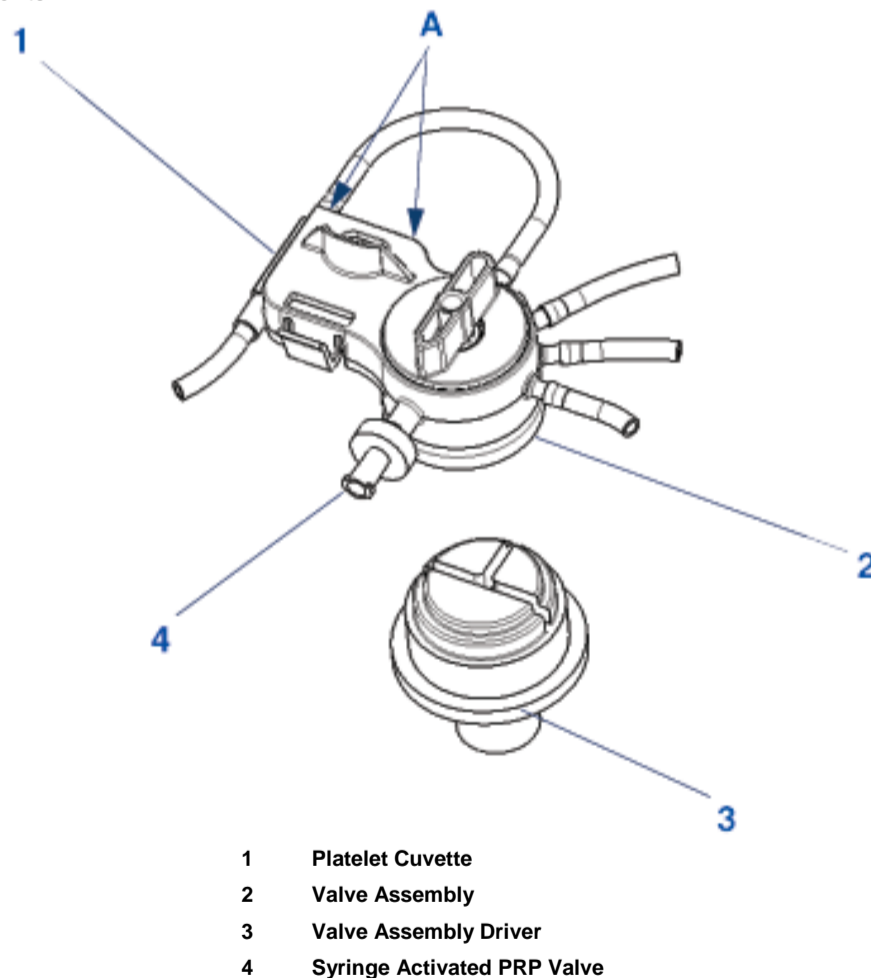

Figure 5 - Valve Assembly
9. Place the pump loop tubing over the pump rotor. The pump loop will automatically load when the processing cycle is initiated. Seat the platelet cuvette/valve assembly by aligning the platelet cuvette and the valve assembly with the platelet sensor body and the valve assembly driver. Press down firmly on the back side of the platelet cuvette/valve assembly, at position A near the pump loop, until the assembly is snapped in place (see label A, Figure 5).